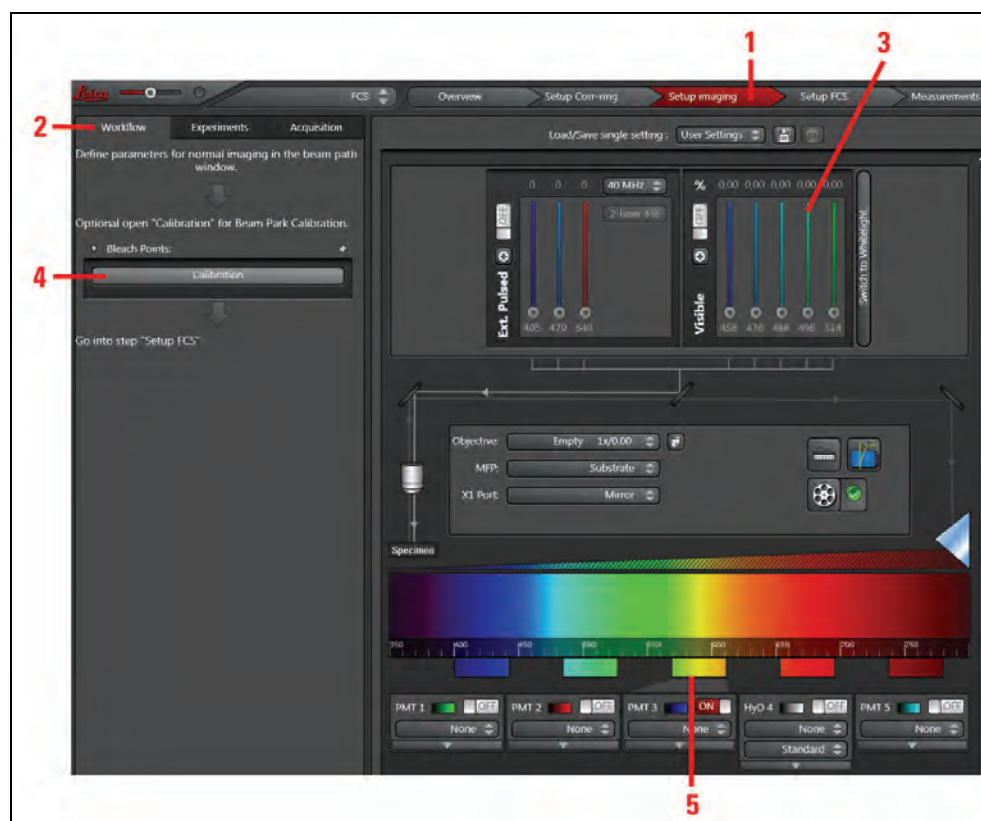

Figure 154: Calling up the procedure for calibrating the FCS measurement position in the FCS Wizard
4. Select the **Setup Imaging** step (**Figure 154**, item 1).
5. Click the **Workflow** tab (**Figure 154**, item 2).
7. Select one (or more) suitable laser line(s) (**Figure 154, item 3**) and a suitable detection range on the detector (**Figure 154, item 5**),
10. Click **Calibration** in the pull-down menu (**Figure 154, item 4**).
Use the photomultipliers for this (**Figure 154, item 5**).